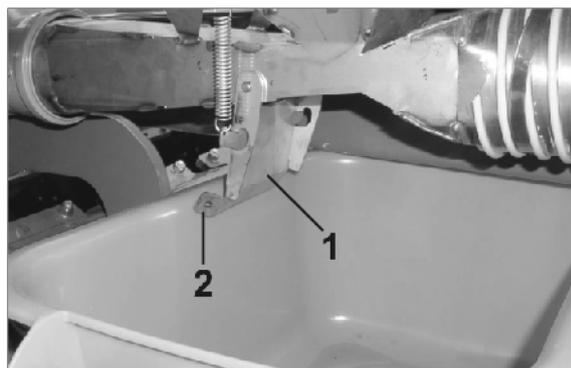

Fig. 121
- Open the injector sluice flap (Fig. 121/1) so that the seed/fertiliser can flow into the calibration trough.
Risk of contusions on opening and closing the injector sluice flap (Fig. 121/1).
Hold the injector sluice flap only by the lug (Fig. 121/2), otherwise there is a danger of injury when the spring-loaded flap snaps shut.
Never insert your hand between the injector sluice flap (Fig. 121/1) and the injector sluice.